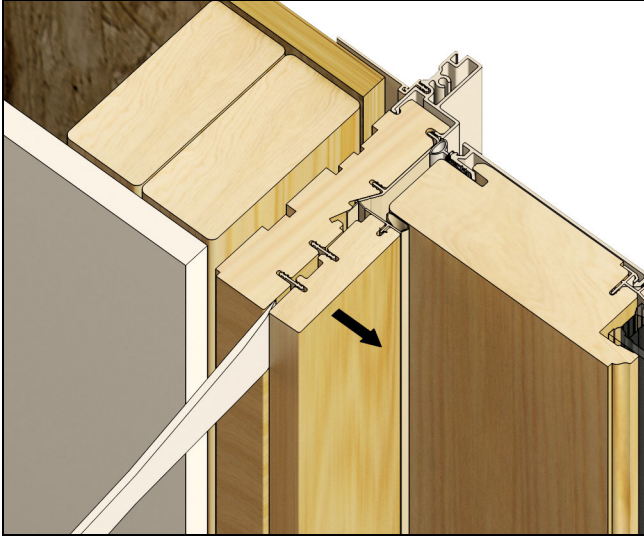

Figure 16
1. Remove covers by inserting a flat edge (pry bar) between the cover and the jamb. Starting at the top, gently pry cover away from the jamb and work your way down until the cover is fully disengaged. See Figure 16. Repeat for other jamb and head jamb covers. Note: Units also come with a pull tab to assist with removal of the jamb covers.